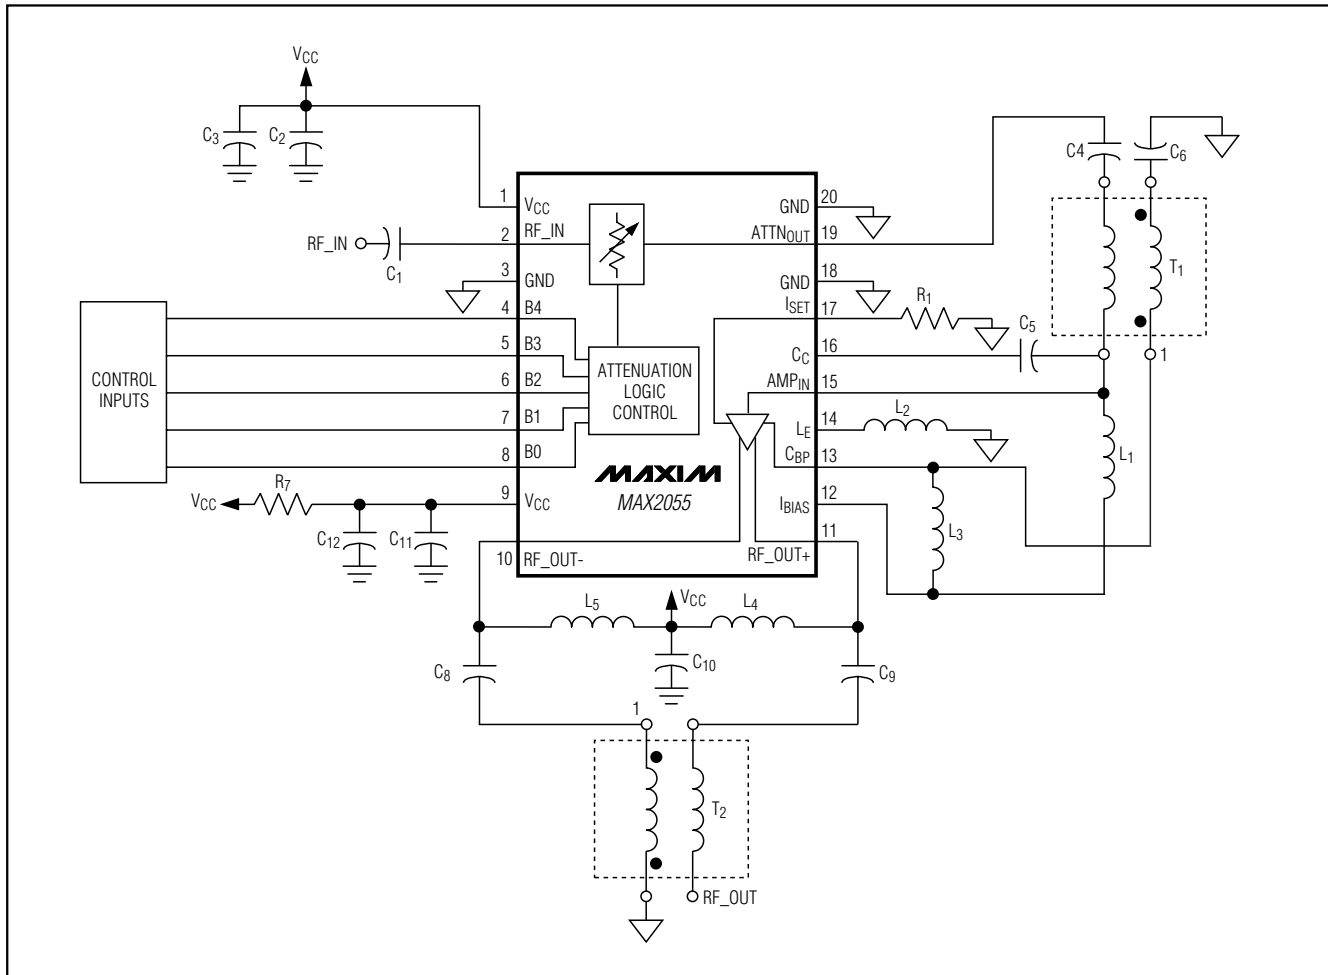

Figure 1. Typical Application Circuit
**Note 2:** All limits reflect losses of external components. Output measurements are taken at RF\_OUT using the application circuit shown in Figure 1.
(Circuit of Figure 1,  $V_{CC} = 5.0V$ ,  $R_1 = 1.13k\Omega$ , max gain ( $B0 = B1 = B2 = B3 = B4 = 0$ ),  $P_{OUT} = 5dBm$ ,  $T_A = +25^\circ C$ , unless otherwise noted.)
(Circuit of Figure 1,  $V_{CC} = 5.0V$ ,  $R_1 = 1.13k\Omega$ , max gain ( $B_0 = B_1 = B_2 = B_3 = B_4 = 0$ ),  $P_{OUT} = 5dBm$ ,  $T_A = +25^\circ C$ , unless otherwise noted.)
**Table 1. Suggested Components of Circuit of Figure 1**